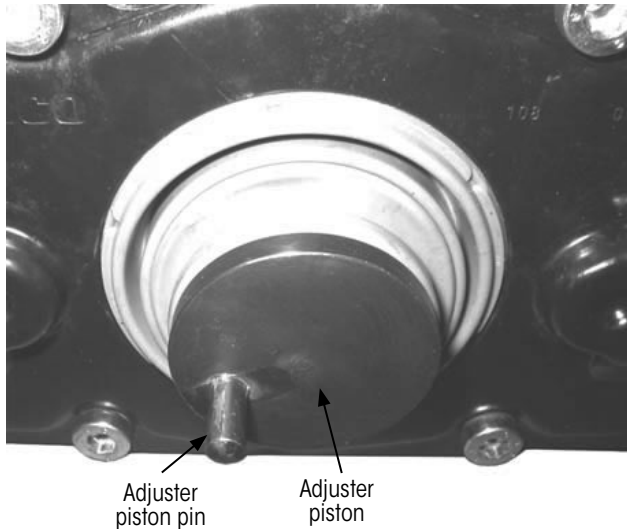

Figure 33: Adjuster piston rotation with pin
1. While checking the adjuster, **restrain** the adjuster piston pin to prevent rotation and damage to the adjuster piston boot (Figure 33).